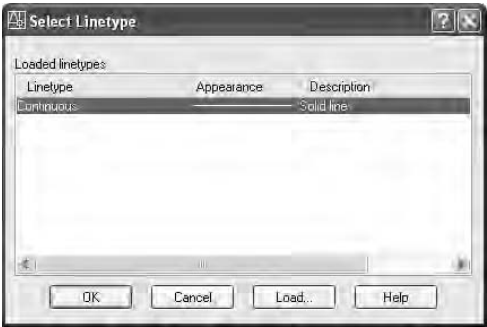

FIGURE 6.9: The Select Linetype dialog box
1. In the Layer Properties Manager dialog box, click Continuous in the row for the Roof layer to open the Select Linetype dialog box (see Figure 6.9). In the Loaded Linetypes list, only Continuous is displayed. No other linetypes have been loaded into this drawing.